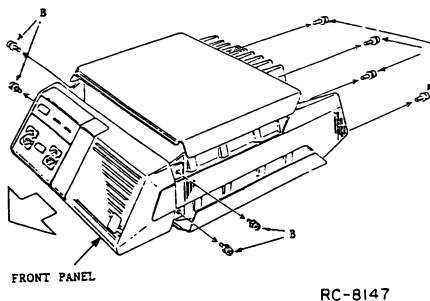

Figure 1
1. Remove the top and bottom covers from the radio by removing the four screws at A in figure 1.
2. Remove the FRONT PANEL by removing the four screws at B in figure 1.